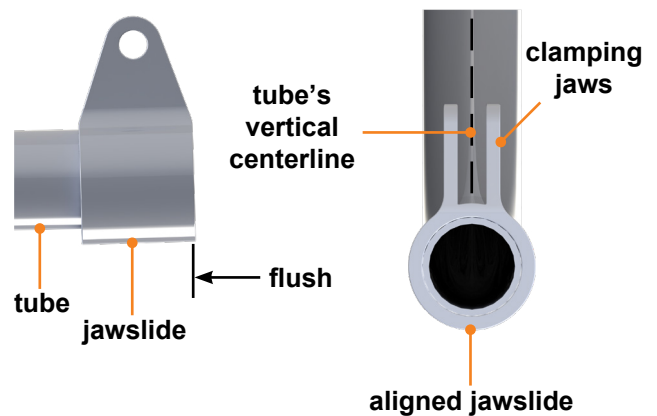

Fig.4
8. Slip the jawslide onto one end of the tube, position it flush to the end of the tube, then align the clamping jaw vertical to the tube ends (Fig.4).